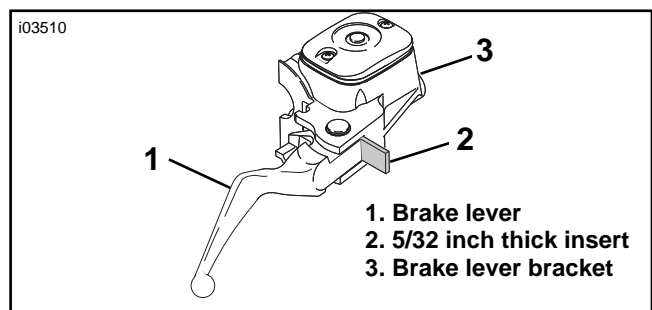

Figure 1. Install Cardboard Insert
4. See Figure 1. Squeeze the brake lever and place the insert between the brake lever and lever bracket.
31. See Figure 1. Squeeze the brake lever, and remove the insert between the brake lever and lever bracket.
33. Obtain the **new** clutch cable (12) and anchor pin (13) from **this** kit, and install them in place of the original equipment. Refer to CLUTCH CABLE in the Service Manual to re-install the clutch-lever assembly to the handlebar.